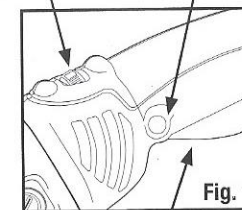

Fig. 1
2. Pull the **Trigger Switch (A) Fig. 1** to start the motor. Release the Trigger switch button to stop motor.
3. The **Trigger Lock (B) Fig. 1** holds the Trigger Switch in the ON position when it is depressed while the Trigger Switch is pulled.
1. Adjust the speed by turning the **Thumbwheel (C), Fig. 1**.